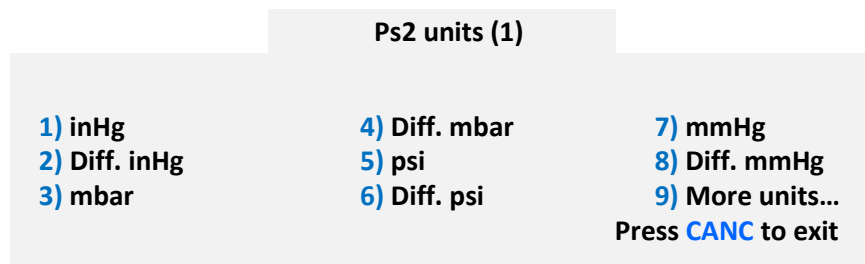

Figure 3.8 : Select Ps2 Units (1)
Ps2 units can be changed only if the key# symbol (9) is displayed to the left of the Ps2 units field. Press key '9' on the keypad and the Lower section of the display will appear as shown in Figure 3.8 below.